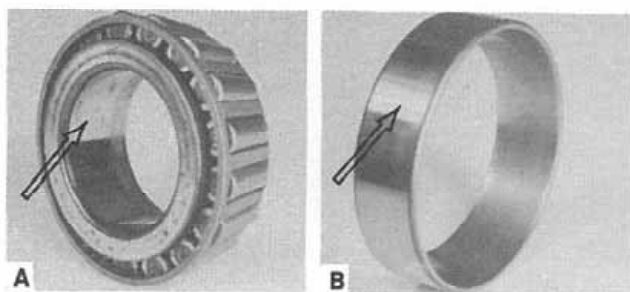

Figure 8:
If a bearing cone (A) or bearing cup (B) (Fig. 8) shows evidence of creeping, they should be replaced to restore accurate fit. Check the fit of the new bearing pieces to their mating parts also, in this case; bearing cap counterbores and shaft support journals.